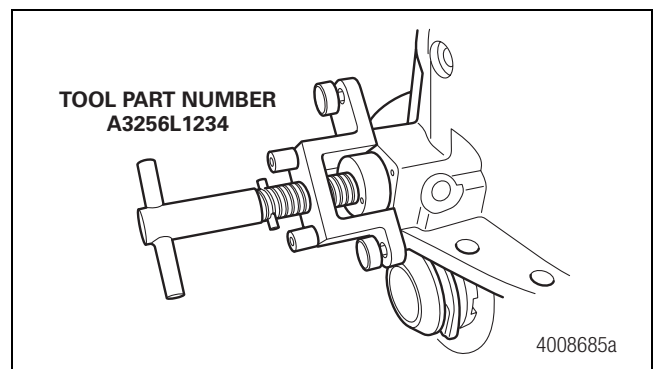

Figure 15
4. Install the clutch collar onto the fork. Slide the clutch collar and fork into position. Insert the end of the fork above the compressed spring while you position the clutch collar to the main differential. The teeth of the clutch collar must face the main differential case teeth. Ensure the spring is correctly seated within the raised areas of the fork. Figure 15.